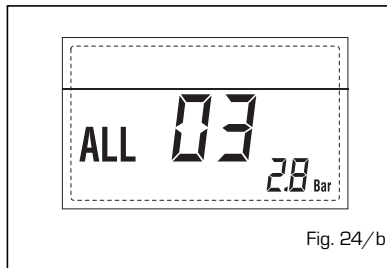

Fig. 24/b
**- HEATING SENSOR ANOMALY ALARM 05** (fig. 24/d)